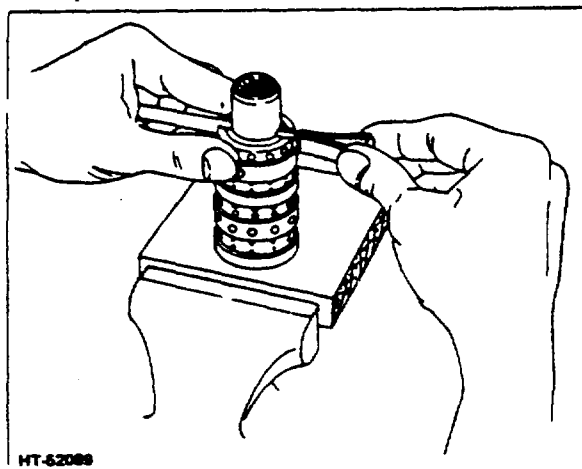

Figure 3-17. Installing Centering Spring Set
6. With spring slots of the spool and sleeve in line, stand parts on end and insert spring installation tool through slots in both parts (Fig 3-17). Position 3 pairs of centering springs (or 2 sets of three each) on bench so that extended edge is down and arched center section is together. In this position, enter one end of entire spring set into spring installation tool.